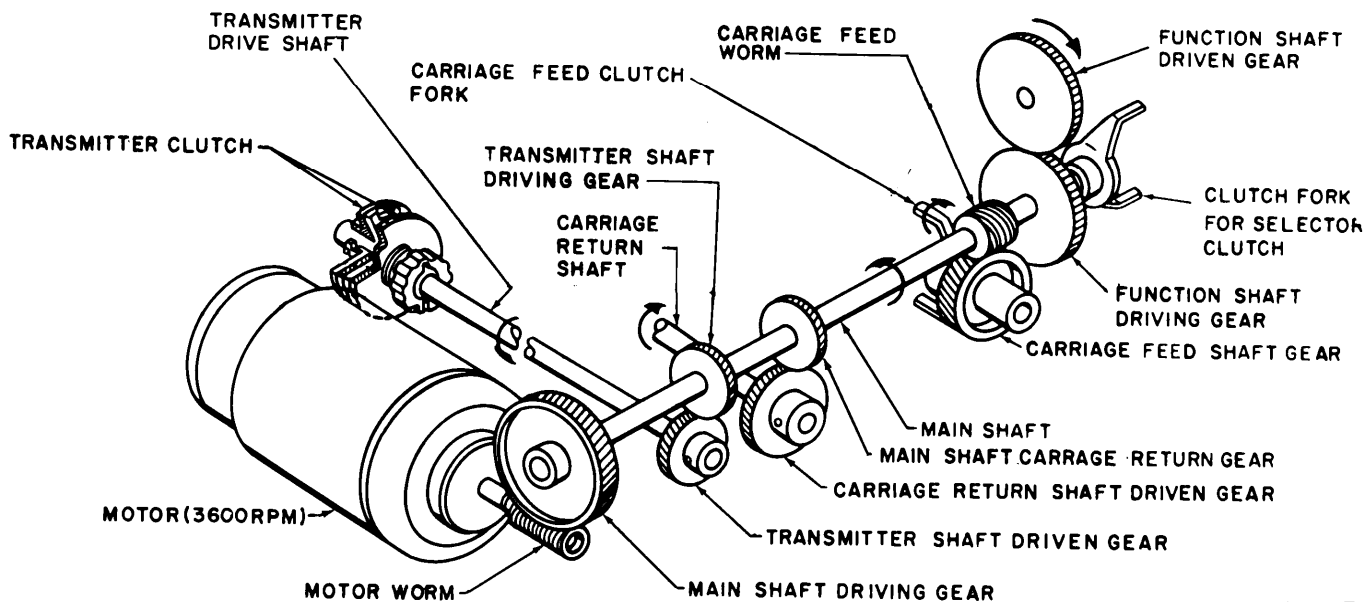
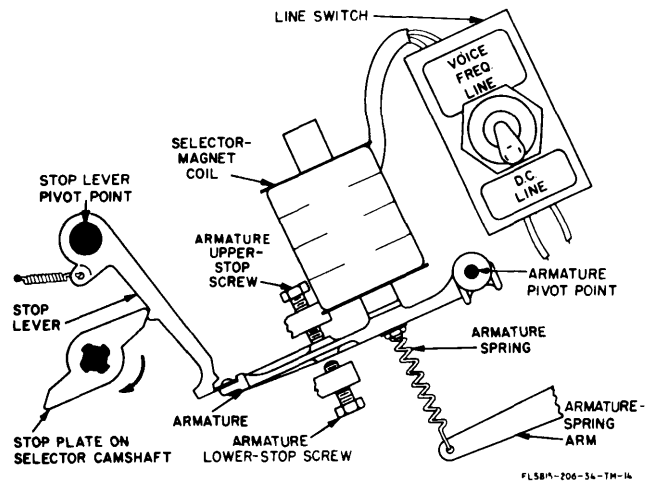
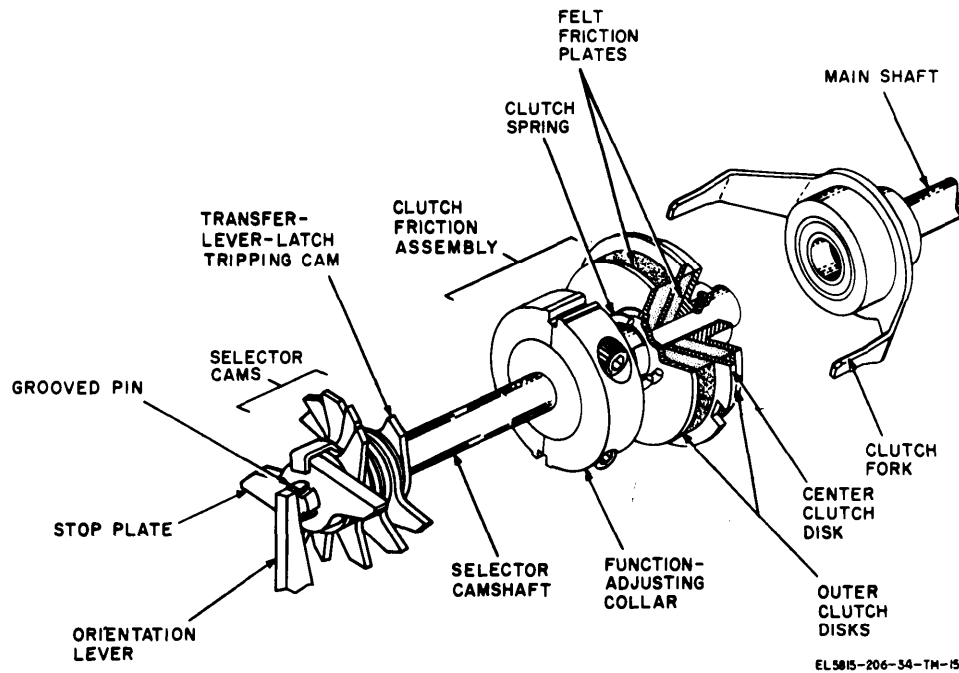
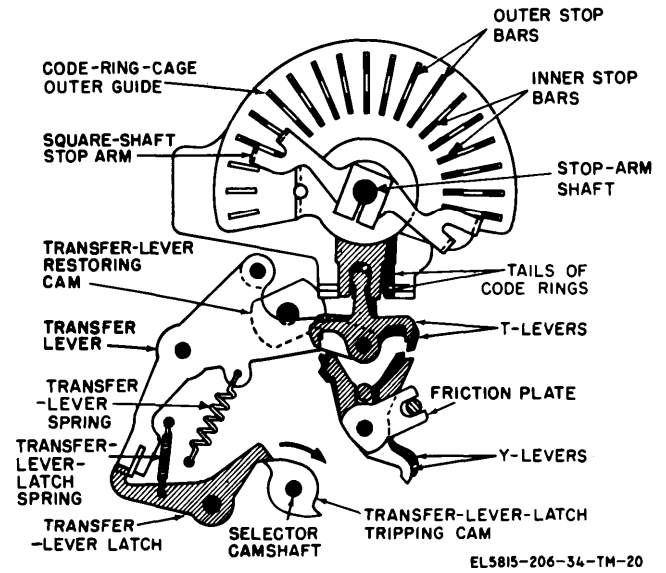

Figure 2-7. Mechanical power distribution.
Figure 2-14. Armature held in marking position by energized selector magnet.
Figure 2-15. Selector camshaft and selector friction clutch.
Figure 2-20. Transfer lever in latched position.
(fig. 2-7)
*a. Condition During Marking Impulse.* When either a marking code impulse or the stop impulse is received current flows through the two selector-magnet coils and a magnetic field is present around the coils (fig. 2-14). The magnetic field is strong enough to overcome the tension of the armature spring and the armature is held against the armature upper-stop screw (marking position of armature).
*a. Selector Friction Clutch.* When the motor is operating, the main shaft and the selector clutch fork that is fastened to one end of the main shaft rotate continuously (fig. 2-7). Two fingers of the clutch fork are engaged with two notches in the center clutch disk of the friction clutch (fig. 2-15). The center clutch disk and the two felt friction plates rotate continuously with the clutch fork. The compressed clutch spring presses one outer clutch disk, the felt friction plates, and the center clutch disk against the other outer clutch disk, causing a constant torque to be applied to the selector camshaft. Rotation of the selector camshaft is controlled as described in b through d below.
*c. Starting Selector Camshaft Rotation.* When the start impulse is received, the armature spring pulls the armature downward, against the armature lower-stop screw (para 2-17b) and the lower end of the armature releases the stop lever (fig. 2-14). Pressure of the stop plate causes the stop lever to pivot counterclockwise slightly, and the selector camshaft is permitted to start turning (B, fig. 2-16).
The five code impulses of a code group are received in sequence immediately after the selector camshaft starts turning (para 2-17c). Each of the code impulses is either a marking (current) or spacing (no-current) impulse (fig. 2-2), as determined by the code group assigned to the character to be printed, or the nonprinting operation to be performed by the page printer. A marking code impulse always causes the armature to be drawn upward, against its upper-stop screw (fig. 2-14). A spacing code impulse always allows the armature spring to pull the armature downward against its lower-stop screw. Five selector cams (fig. 2-15 and 2-17), five selector levers, and five Y-levers (one of each for each code impulse), are used to record the position of the armature while each of the five code impulses are being received. The selector cams are staggered around one-half the circumference of the selector camshaft (fig. 2-15), which makes  $\frac{1}{2}$  revolution for each code group received. The first selector cam and its associated selector lever and Y-lever record the nature (marking or spacing) of the first code impulse; the second
detent on the TT-4B/TG, TT-4C/TG, TT-335/TG, TT-537/G, TT-698A/TG, and TT-698B/TG, or the friction plate on the TT-4A/TG and TT-698/TG (fig. 2-20). In this way, each time a marking code impulse is received, its associated Y-lever is moved to the clockwise position.
- 1 Start impulse received in selector-magnet coils (fig. 2-14).
- 5 Selector camshaft starts revolving (fig. 2-15).
The purpose of the transfer operation is to pivot each of the five code rings to a position (marking or spacing) to correspond with the nature (marking or spacing) of each of the five code impulses of a received code group. When positioned, the code rings select a stop bar (para 2-20) which controls the selection of the character to be printed or the function (nonprinting mechanical operation) to be performed. The transfer operation occurs automatically, immediately after the five Y-levers are positioned clockwise or counterclockwise in accordance with the nature of each of the five code impulses of the code group (para 2-18a and b). Five T-levers (fig. 2-20) are used to position the code rings. The T-levers are mounted on a common pivot stud that is attached to one arm of the transfer lever. Each T-lever is mounted above, and in alignment
*a. Condition Before Transfer Operation.* When the five Y-levers are being positioned (para 2-18), the transfer-lever latch holds the transfer lever in the counterclockwise position against the pull of the transfer-lever spring, and the five T-levers are held above their respective Y-levers (fig. 2-20).
*b. Positioning T-levers and Code Rings.* Immediately after the fifth selector cam positions the fifth Y-lever, a lobe of the transfer-lever-latch tripping cam (fig. 2-15) pushes against one arm of the transfer-lever latch (fig. 2-20). The latch pivots counterclockwise, releasing the lower arm of the
1	Transfer-lever-latch tripping cam pivots transfer-lever latch (fig. 2-20).
A stop bar is selected by the code rings immediately after the five code rings are set to the marking or spacing positions as determined by the five code impulses of the received code group (para 2-19). Thirty-two of thirty-five stop bars provided are used to control the point at which rotation of the square-shaft stop arm (fig. 2-20) is halted after each code group is received. The remaining three stop bars (fig. 2-24) do not affect rotation of the square-shaft stop arm; they activate mechanism for the linefeed, carriage-return, and figures-shift operations (para 2-22, 2-26 and 2-29).